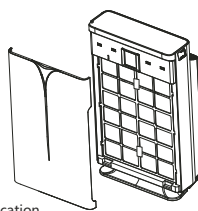

Fig. 4
2. Pre-filter – there are two tabs in the middle of the frame; grasp them and insert the filter into the mounting holes in the device (Fig. 4).